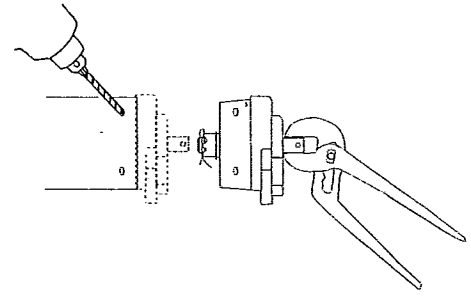

Figure 3a
7. Slide the roller tube out of the fabric pocket and lay to one side. If the roller assembly is equipped with a Z-Lock, that end will not pass through the fabric pocket. The end without the Z-Lock could be pulled through the fabric or if there are Z-Locks at both ends, it is necessary to drill out and remove the front Zlock. (Fig. 3a)